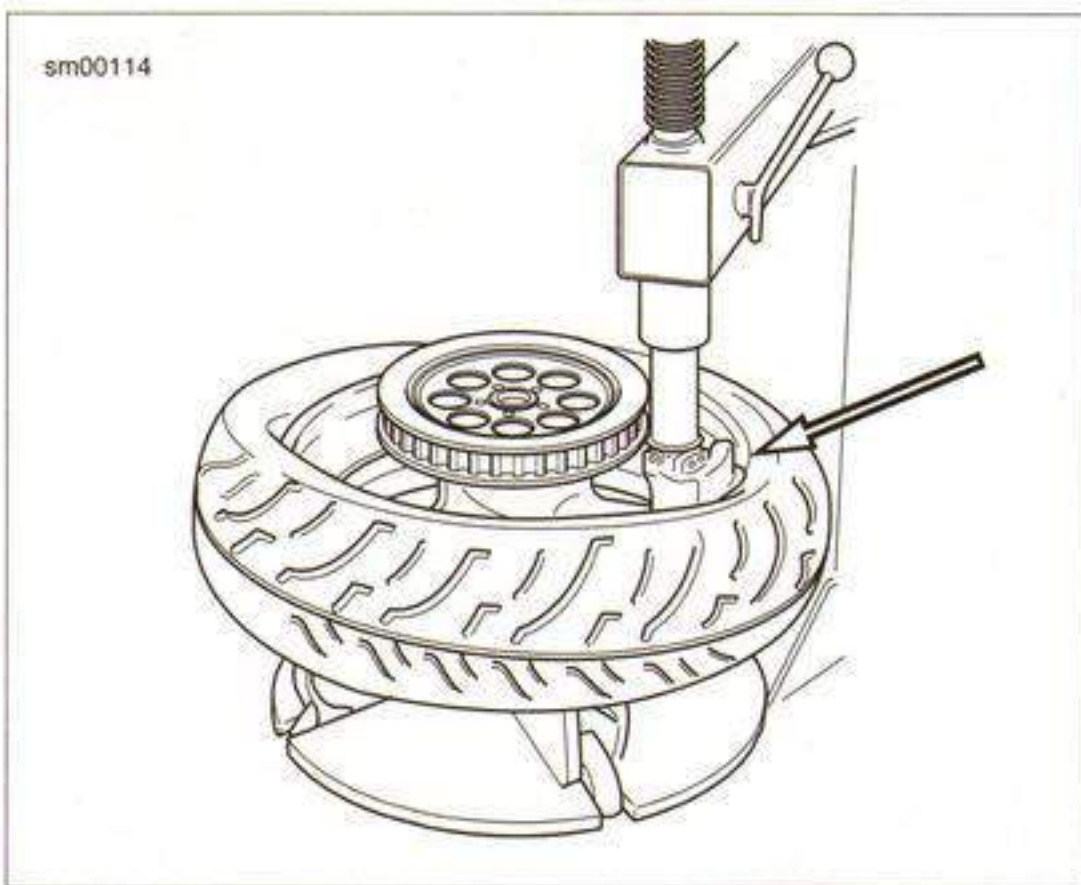

Figure 2-11. Pry Bead Over Rim Edge
4. See Figure 2-11. Push the lower bead into the rim well on one side and insert tire tool underneath the bead from the opposite side.